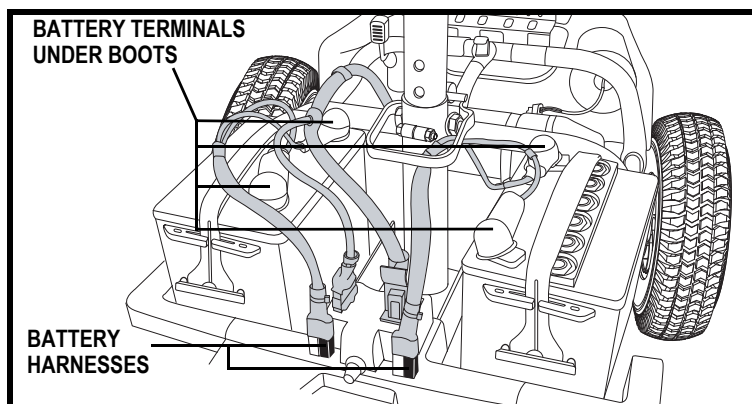

Figure 13. Battery Harnesses and Battery Cables
3. Disconnect the battery harnesses by pulling them straight up. See figure 13.